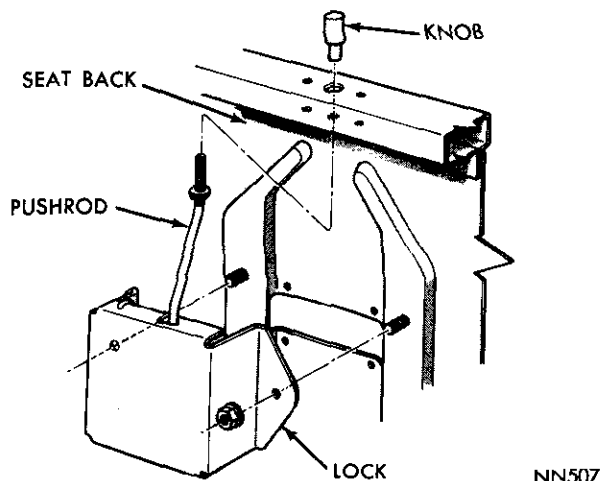

Fig. 18—Second Seat Lock
- (2) Release the catches on seat back (Fig. 18) and remove seat assembly.